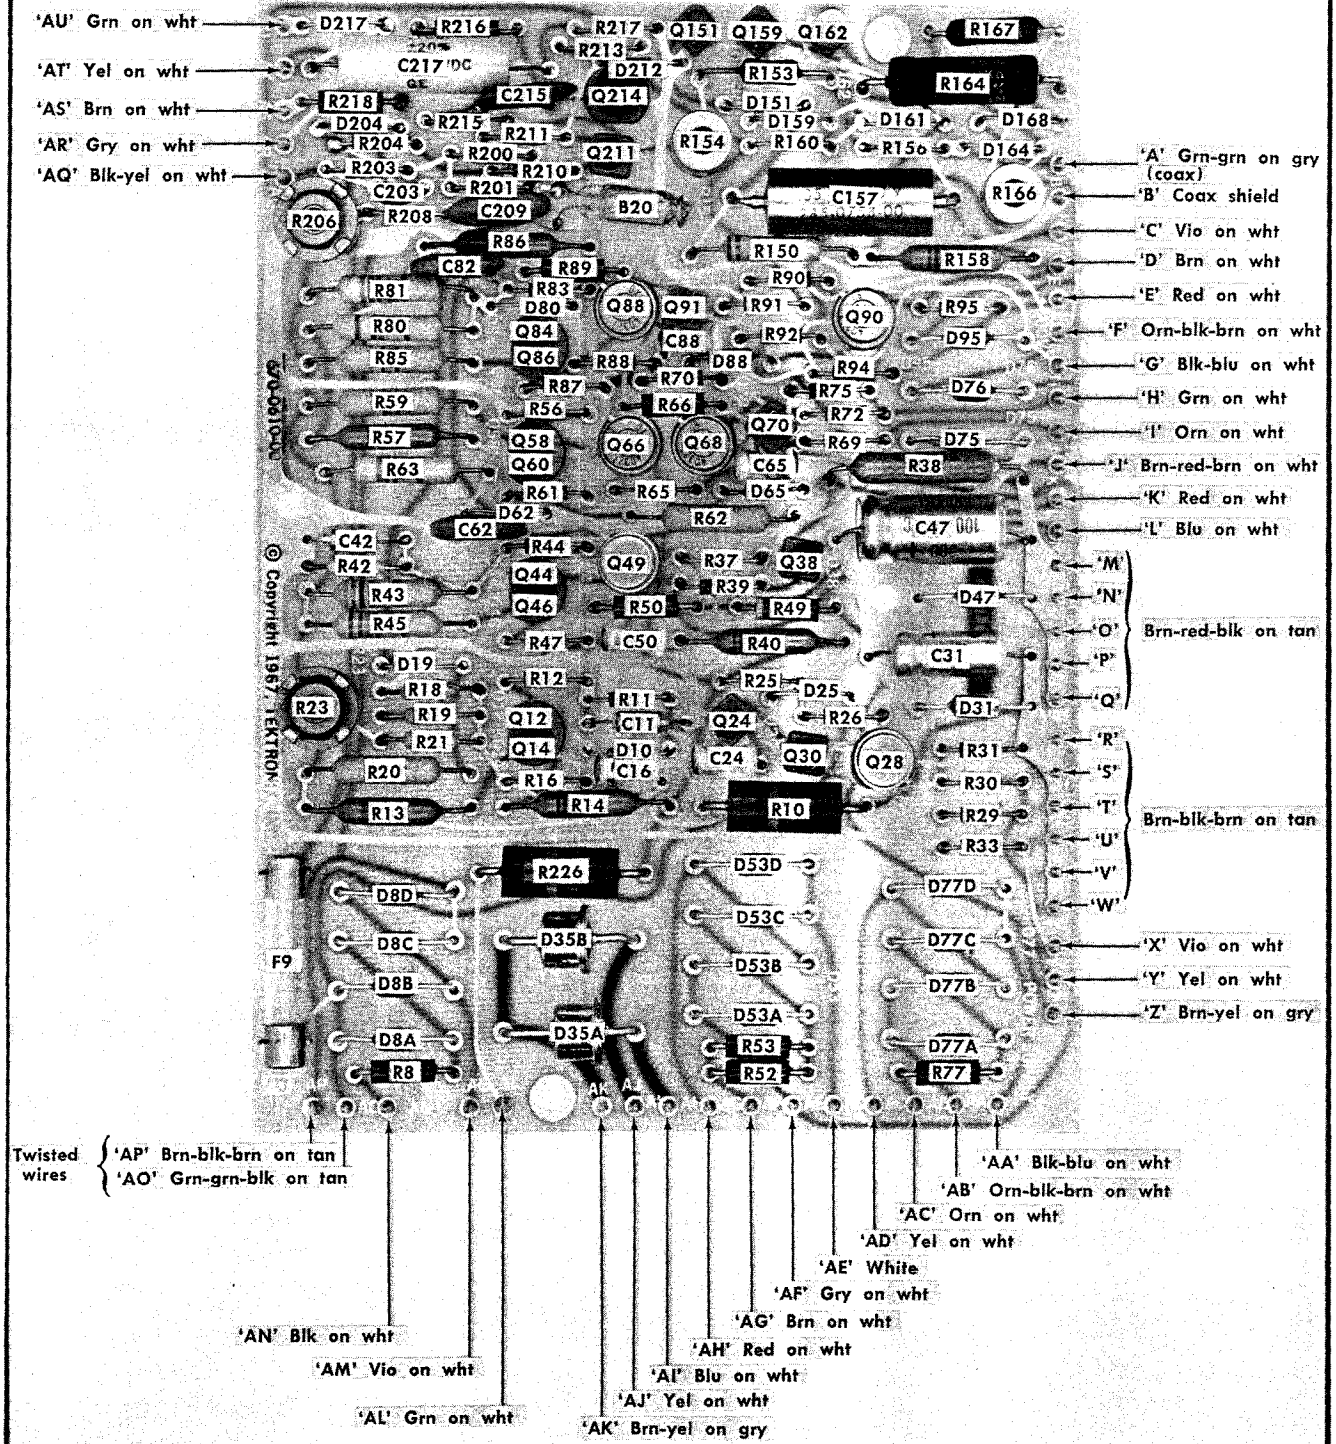

Fig. 4-5. Low Voltage Power Supply and 1 kHz Calibrator circuit board.
**6. Check Circuit Board Interconnections.** After the trouble has been isolated to a particular circuit, check the pin connectors on the circuit board for correct connection. Figs. 4-5 through 4-9 show the correct connection for each board.
B. If the problem is possibly in the -100-, +125- or +300-volt supplies, visually check current sensing resistors R33, R75 and R94 for charring or cracking. For location of components, refer to Fig. 4-5.
for either the completely wired or the unwired board. Many of the components mounted on the circuit boards can be replaced without removing the boards from the instrument. Observe the soldering precautions given under Soldering Techniques in this section. However, if the bottom side of the board must be reached or if the board must be moved to gain access to other areas of the instrument, the mounting screws need to be removed and it may be necessary to disconnect some of the interconnecting wires from the pin connectors. Refer to Figs. 4-5 through 4-9 for component locations and interconnecting wire identifying colors.